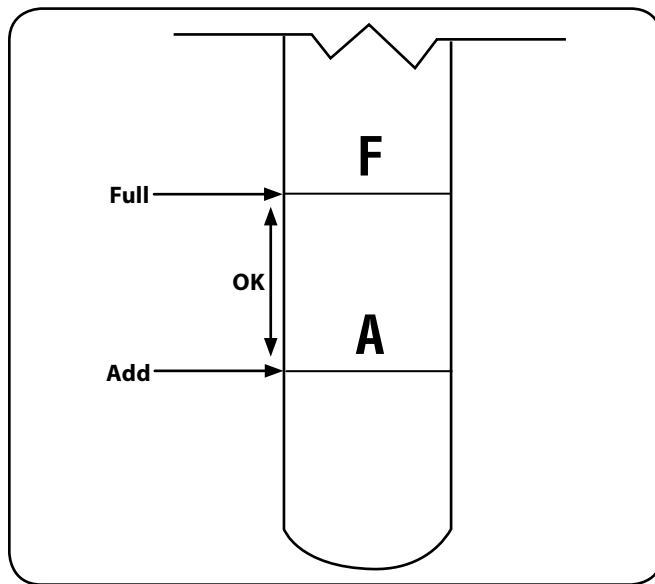

Figure 6-3
1. Remove the dipstick and check the level. See Figure 6-3.
7. Remove the oil fill plug/dipstick from the oil fill port and SLOWLY pour oil into the oil fill port. Fill the transmission case until the oil level reaches the "FULL" mark on the dipstick. Refer to Figure 6-3.